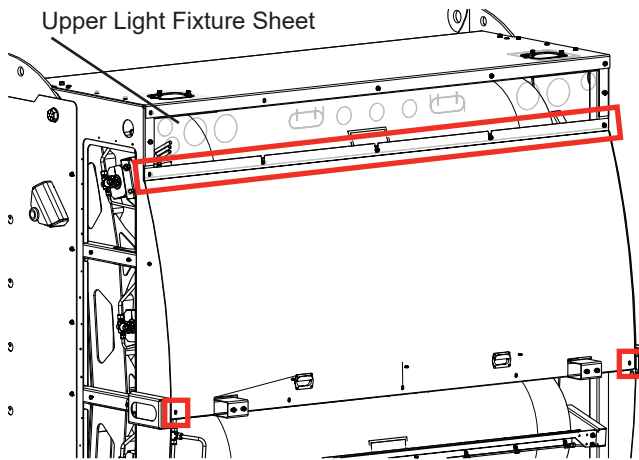

Figure 29-2
2. Reinstall the (5) top fasteners from top cover sheet (Figure 29-2). The top cover sheet should be held in place at the top underneath the upper light fixture sheet and held in place at the bottom by (2) fasteners, which also need to be reinstalled (Figure 29-2).